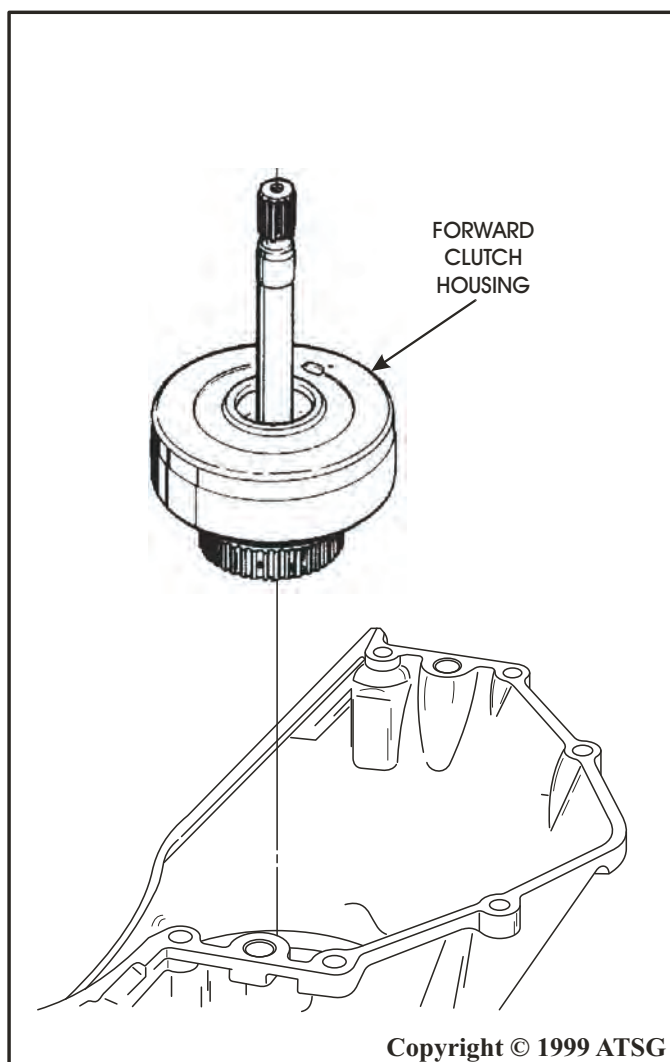

Figure 47
47. Remove the forward clutch drum complete by lifting straight up on the turbine shaft as shown in Figure 47.